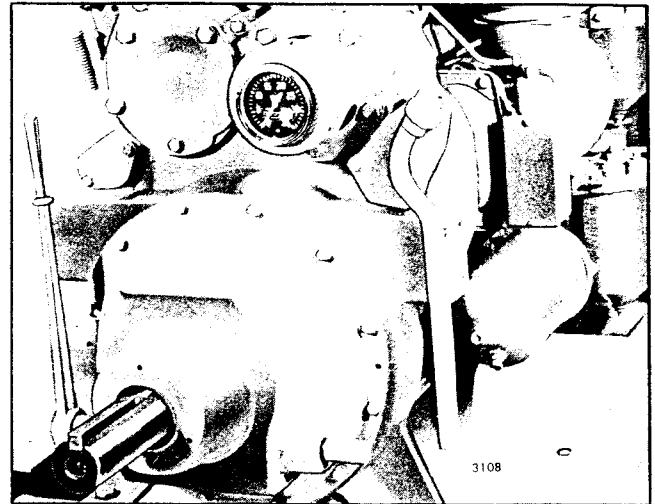

Fig. 5 - Power Take-Off Mounting (Rear)
With the power take-off disconnected from its driven mechanism, refer to Fig. 5 or 6 and remove the power take-off as follows:
4. Refer to Fig. 5 or 6, then remove the bolts and lock washers securing the power take-off assembly to the flywheel housing or bolts, lock washers and nuts to the front end power take-off adaptor.